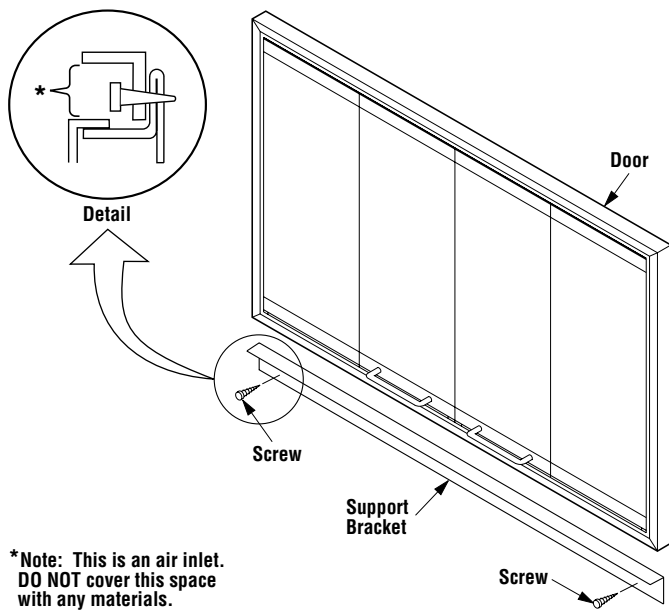

Figure 1
Step 1. Position the door support bracket along the lower front face of the appliance ash lip, oriented as shown (see Figure 1) (DO NOT affix the door support bracket to the outer front face of the appliance). Using the two (2) self tapping screws provided, secure the door support bracket to the front of the ash lip.